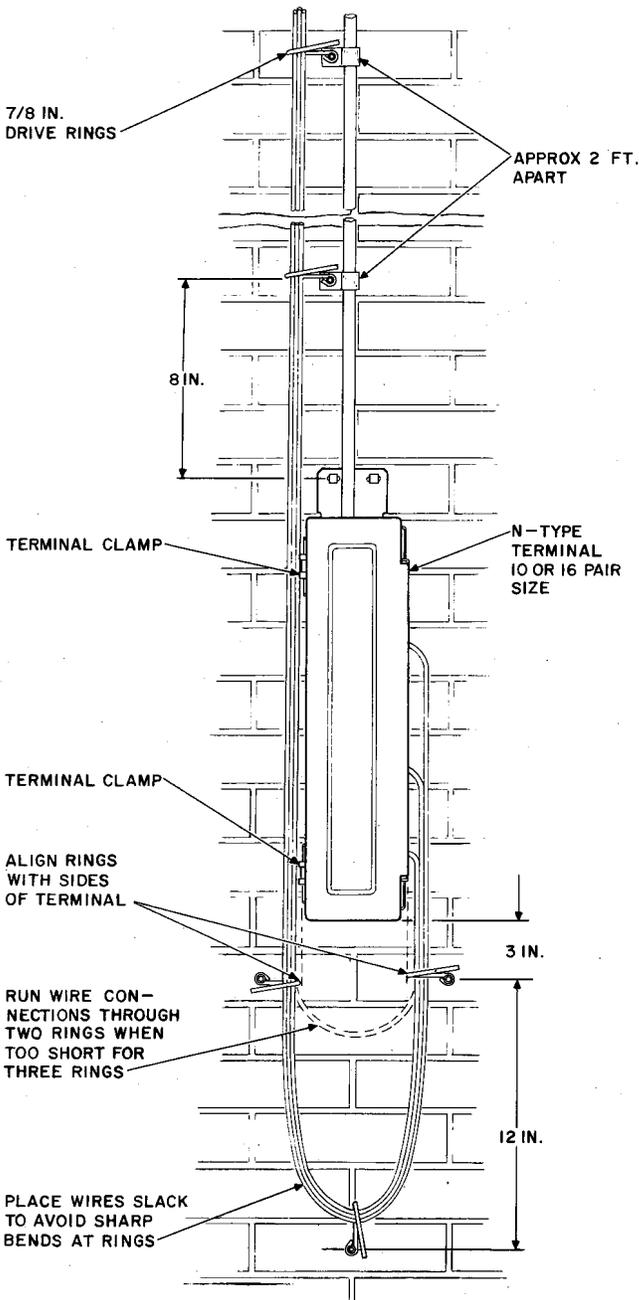

Fig. 18—Wall Mounted 10- or 16-Pair Cable Terminal With Stub at Top
5.02 Refer to Fig. 18 through 25 for arranging drop and block wires at wall-mounted terminals.